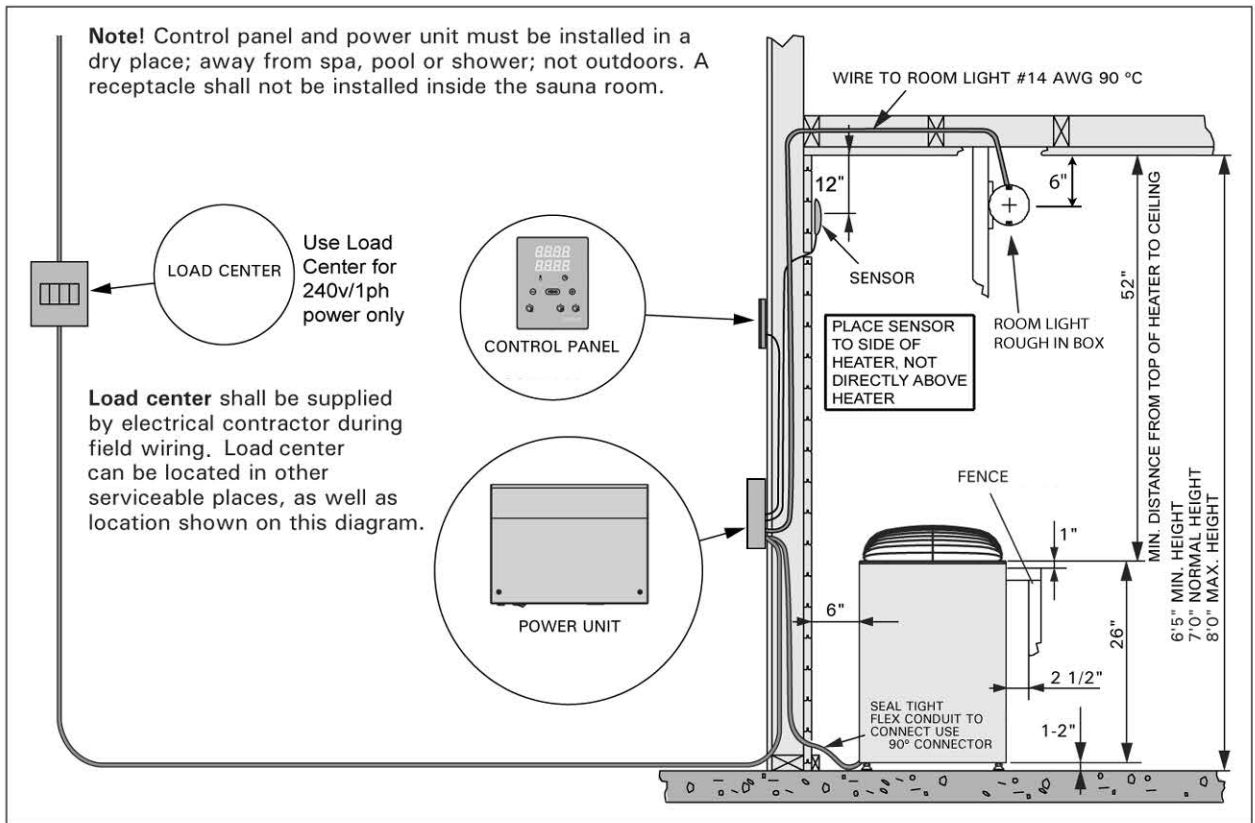

Figure 2.
- The location of the heater fulfils the minimum requirements concerning safety distances given in figures 2–6 and table 1.
1. Remove heater from carton and place in proper location in sauna room. Observe proper clearances as per figures 2–6 and table 1. After final hookup, electrical contractor should secure heater to floor with at least two screws or bolts.